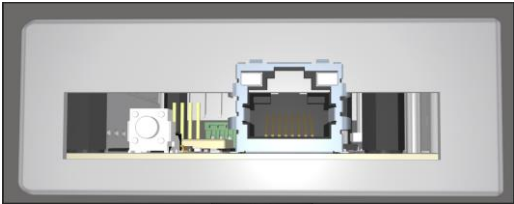

FIG. 2
- 1 RJ-45 Ethernet connector (FIG. 2)